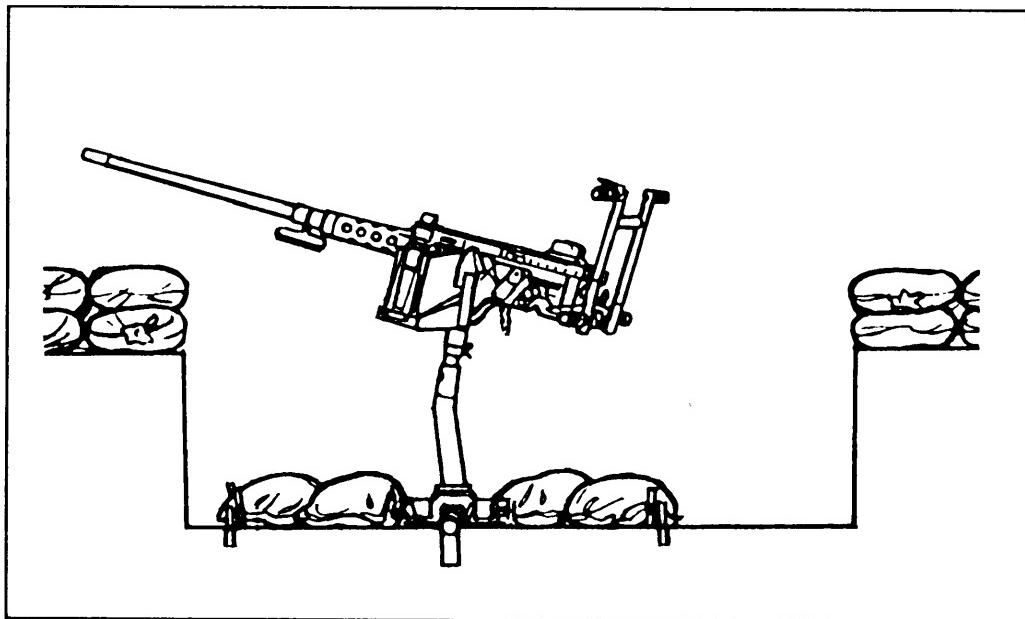

Figure 1-7. Antiaircraft mount, M63.
(3) To secure the tripod legs, stamp the metal shoe on each tripod leg into the ground. Sandbag each leg to stabilize the M2 for firing.
b. **Antiaircraft Mount, M63.** The antiaircraft mount (Figure 1-7) is a four-legged, low silhouette, portable mount used for antiaircraft fire. Table 1-3 lists the general data pertaining to the M63.